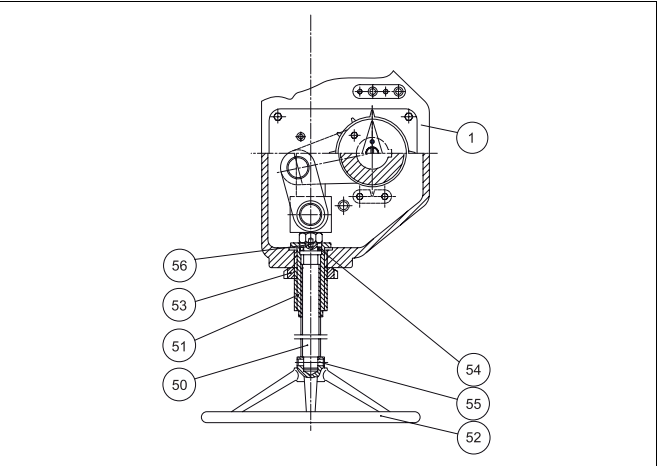

Fig. 24 B1JAR actuator
The B1JAR actuator is otherwise like the B1JA, except that it can be operated manually to bring the piston to the upper position against the spring in case there is no air supply. The B1JA actuator can be changed into a B1JAR by replacing the housing (1) and adding parts (50 to 56), see Fig. 24.
If stiffness or noise occurs when the actuator is operated with the handwheel, check the condition of the bearings (56), see Fig. 24. Other maintenance as described for the B1JA actuator in Section 4.3.
Parts list for Fig. 24: